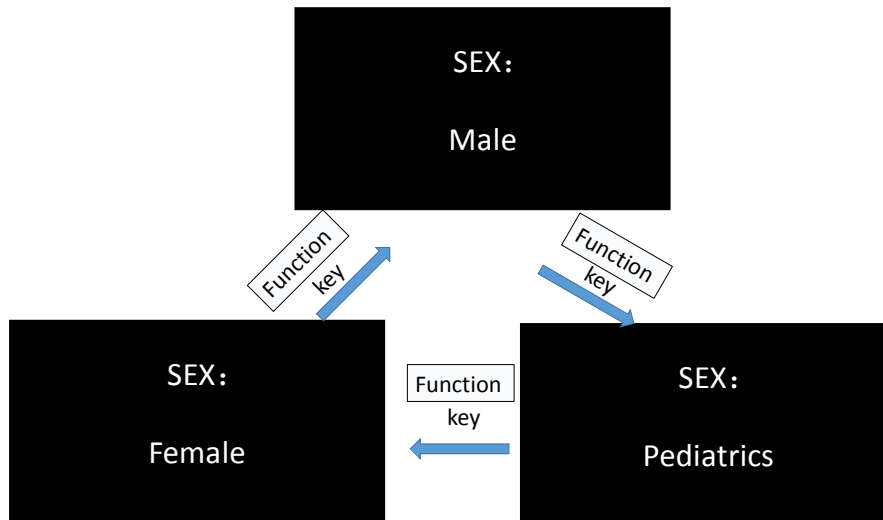

Fig. 4.11 Sex Selection
a) When the group number is “New”, it is the New Patient mode (or press the **Function** key to switch to the New Patient mode). Under this mode, the sex of patient can be selected. Press the **Menu** key of the Main Unit to switch to SEX interface as shown in Fig. 4.11. Then, press the **Function** key to select sex, and press the **Scan** button to save the setting and start scanning.